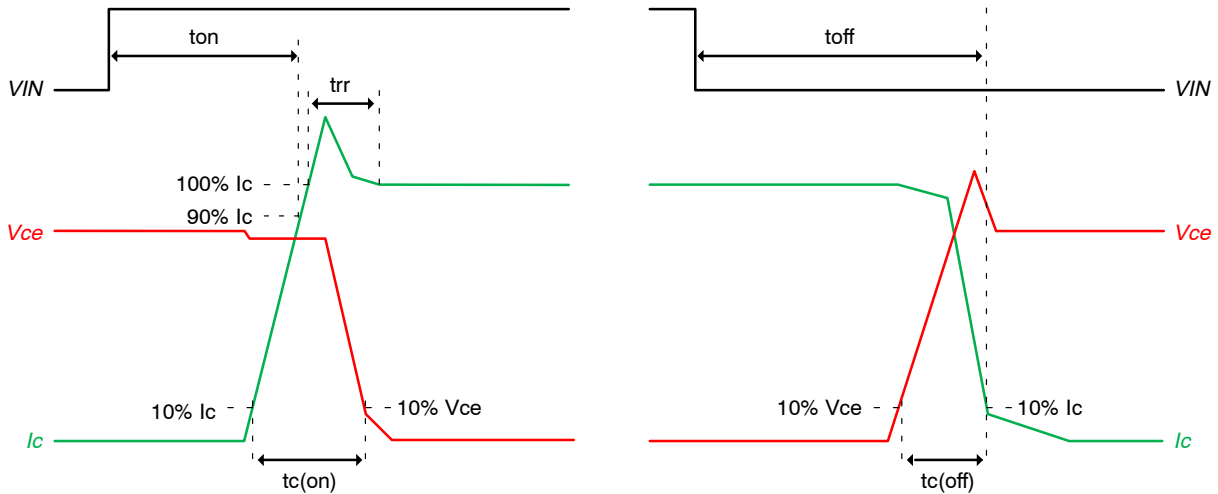

Figure 3. Switching Time Definition
- ton and toff include the propagation delay of the internal drive IC. tc(on) and tc(off) are the switching times of IGBT under the given gate\*driving condition internally. For the detailed information, please see Figure 3.